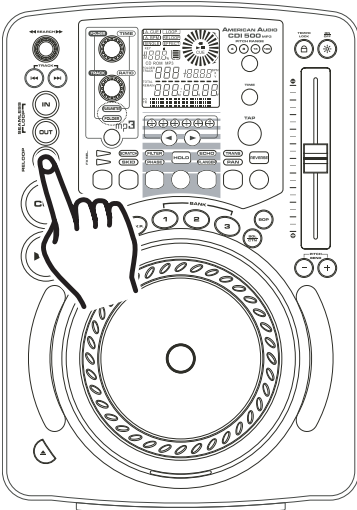

Figure 22
**Please note:** Only the ending point of the loop may be edited. You may make your loop shorter or longer. Before you can edit your seamless loop you obviously must first create a seamless loop to edit. If you haven't created a **SEAMLESS LOOP**, follow the instructions in step 10 to create a loop. If a **SEAMLESS LOOP** has already been created, press the **RELOOP BUTTON (22)** to activate your **SEAMLESS LOOP** (Figure 22) if it is not already activated. To edit your seamless loop's ending point: